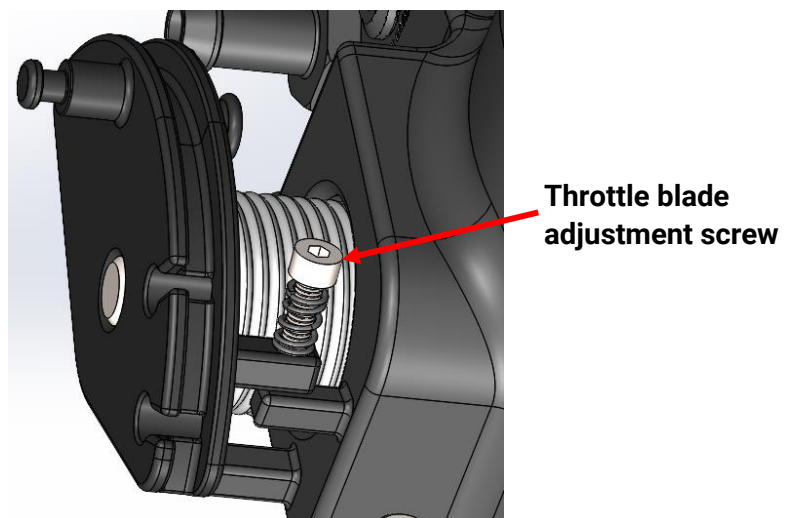

Figure 5: Throttle blade adjustment screw location
6. If the bleed screw is at its maximum open position and the preferred idle is still not obtained, throttle blade adjustment may be required (figure 5).
2. Turn the blade idle adjustment screw (shown in figure 5) clockwise in small increments to increase idle as needed. This will slowly open the throttle blade.